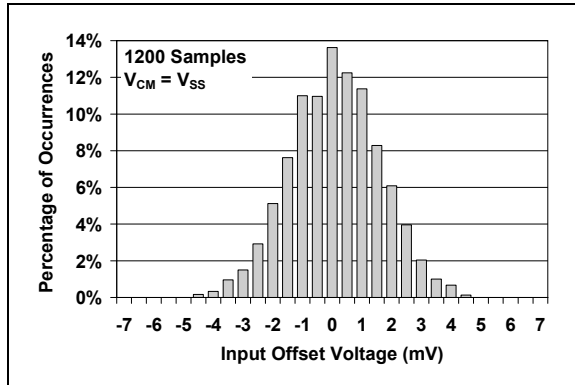

**FIGURE 1-3:** AC and DC Test circuit for the open-drain output comparators.
**Electrical Specifications:** Unless otherwise indicated,  $V_{DD} = +1.6V$  to  $+5.5V$ ,  $V_{SS} = GND$ ,  $T_A = 25^{\circ}C$ ,  $V_{IN+} = V_{DD}/2$ ,  $V_{IN-} = V_{SS}$ ,  $R_{PU} = 2.74$  k $\Omega$  to  $V_{PU} = V_{DD}$  (Refer to Figure 1-3).
**Electrical Specifications:** Unless otherwise indicated,  $V_{DD} = +1.6V$  to  $+5.5V$ ,  $V_{SS} = GND$ ,  $T_A = 25^\circ C$ ,  $V_{IN+} = V_{DD}/2$ , Step = 200 mV, Overdrive = 100 mV,  $R_{PU} = 2.74 k\Omega$  to  $V_{PU} = V_{DD}$ , and  $C_L = 36 pF$  (Refer to Figure 1-2 and Figure 1-3).